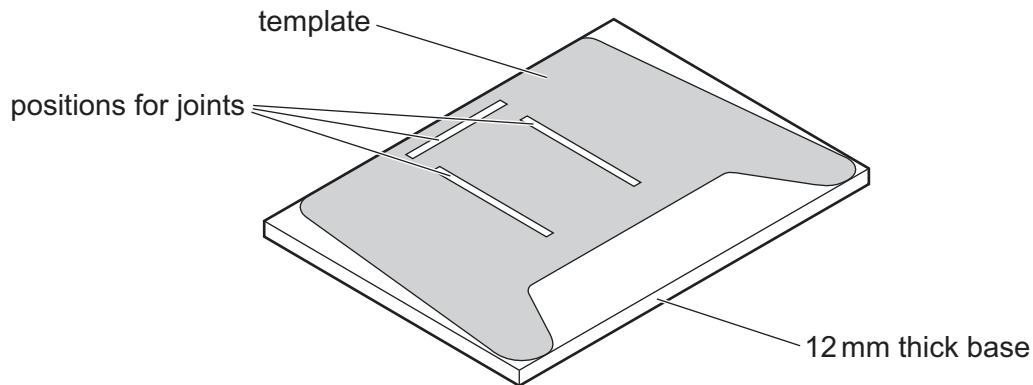

Fig. 12.2
- (c) Fig. 12.2 shows a template that could be used to mark out the shape of the base and the positions for joining the upright and supports to the base.
- (d) The upright and supports will be joined to the base in the positions shown in Fig. 12.2. Use sketches and notes to show how the upright could be joined to the base.